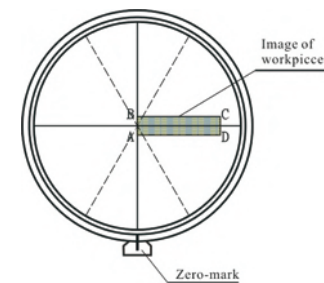

Fig.9 One-dimensional measuring
- 7.2.1.3 Adjust the work piece parallel with the measuring axis. (See Fig.9) BC is parallel with X axis.